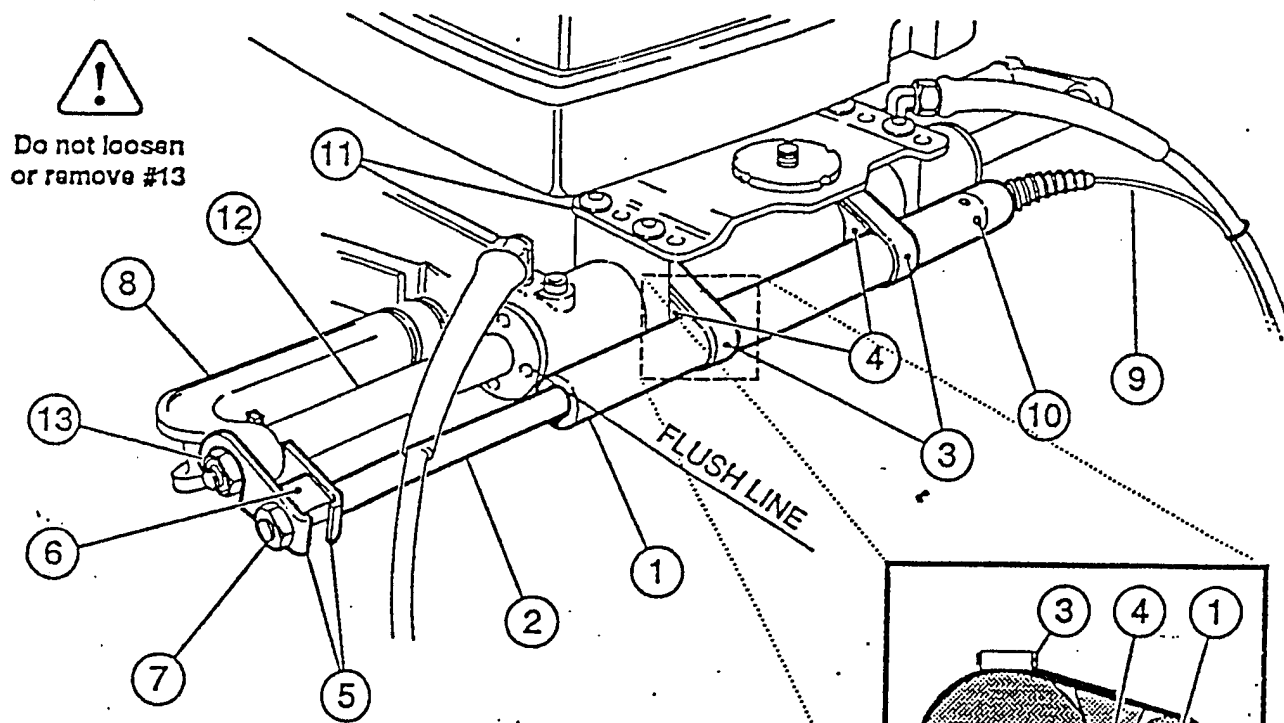
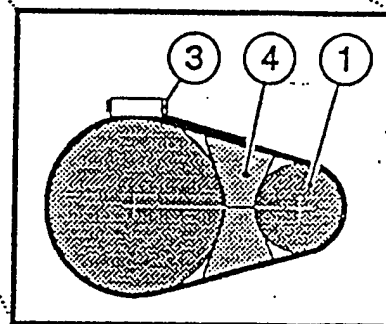

Fig 1 - Parts Location Diagram
Fig 2 - Detail, follow-up & cylinder cross-section
- NOTE Rudder Reference unit may be installed with rod (item 2) facing left or right. Fig. 1 shows rod facing left.
- Undo Gear Clamps (item 3) and place around steering cylinder midsection. Slide Rudder Reference tube (item 1) and Spacers (item 4) through clamps (see fig. 2) and loosely tighten clamps and position 'ALIGNMENT END' FLUSH with steering cylinder as shown in fig. 1 ('FLUSH LINE'). Holes (item 10) should be straight up and forward, as shown. Position clamp screw on top side of steering cylinder, under slide plate (item 11) and tighten. Make certain the Rudder Reference tube